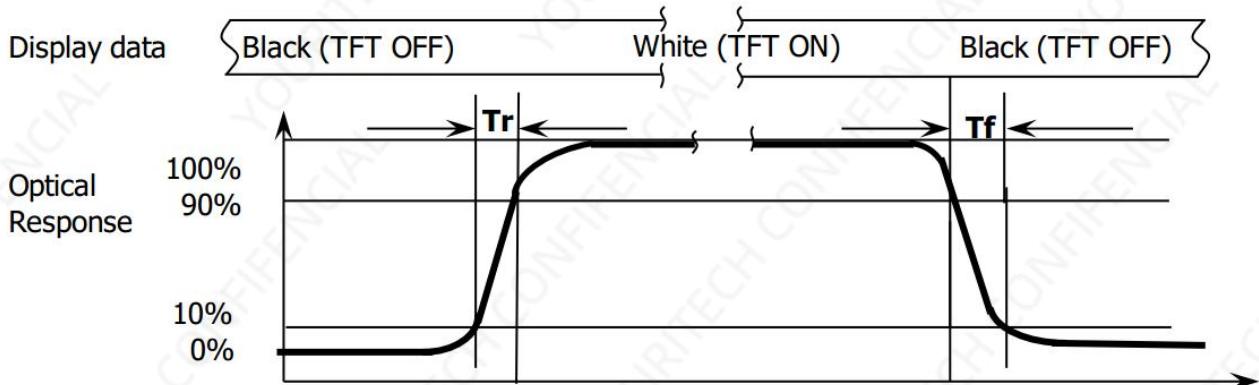

FIG.2. Measuring method for Contrast ratio, surface luminance, Luminance uniformity, CIE (x, y) chromaticity
Note1. Contrast Ratio(CR) is defined mathematically by the following formula. For more information see FIG 2.:
备注1. 对比度是由以下公式计算所得。详见FIG 2。
Note2. Surface luminance is the LCD surface from the surface with all pixels displaying white. For more information see FIG 2.
备注2. 表面亮度是在显示白色画面时，测试的亮度值，详见FIG 2。
Note3. The uniformity in surface luminance (δ WHITE) is determined by measuring luminance at each test position 1 through 5, and then dividing the maximum luminance of 5 points luminance by minimum luminance of 5 points luminance. For more information see FIG 2.
值除以最大值。详见FIG 2.。
Note5. CIE (x, y) chromaticity ,The x,y value is determined by screen active area position 5. For more information see FIG 2.
备注5. CIE(x,y)色坐标 测试点为显示屏中心点P5。详见FIG 2.。